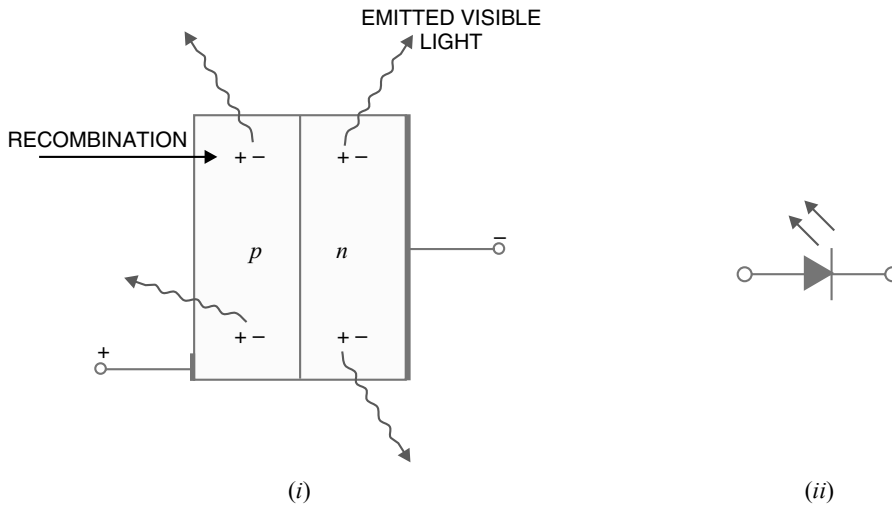
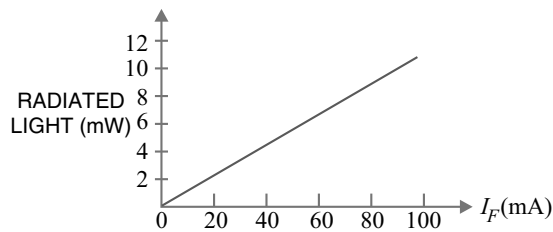

Fig. 5.2
Fig. 5.3
**Theory.** When light-emitting diode (LED) is forward biased as shown in Fig. 5.2 (i), the electrons from the *n*-type material cross the *pn* junction and recombine with holes in the *p*-type material. Recall that these free electrons are in the conduction band and at a higher energy level than the holes in the valence band. When recombination takes place, the recombining electrons release energy in the form of heat and light. In germanium and silicon diodes, almost the entire energy is given up in the form of heat and emitted visible light is small. Since germanium and silicon are opaque materials, the emitted light is blocked *i.e.* it is not transmitted to the surroundings. However, in materials like **gallium arsenide** (GaAs) and **gallium phosphide** (GaP), *the number of photons of light energy is sufficient to produce quite intense visible light.* Since these materials are semi-transparent, some of the visible light escapes to the surroundings. LEDs have replaced incandescent lamps in many applications because of their low voltage, long life and fast on-off switching.
Fig. 5.2 (ii) shows the schematic symbol for a LED. The arrows are shown as pointing away from the diode, indicating that light is being emitted by the device when forward biased. Although LEDs are available in several colours (red, green, yellow and orange are the most common), the schematic symbol is the same for all LEDs. There is nothing in the symbol to indicate the colour of a particular LED. Fig. 5.3 shows the graph between radiated light and the forward current of the LED. It is clear from the graph that the intensity of radiated light is directly proportional to the forward current of LED.